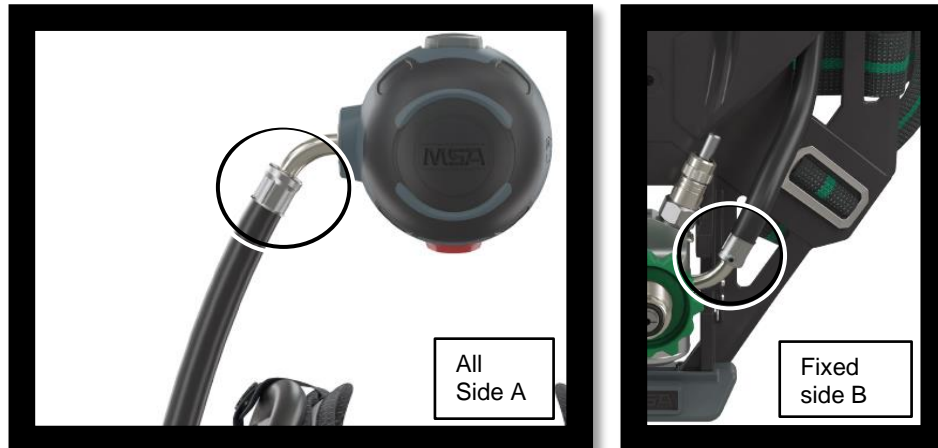

Figure 3 – 2nd Stage Regulator Hose Inspection
1. 2nd Stage Regulator (LGDV) Hose Assembly (Figure 3)